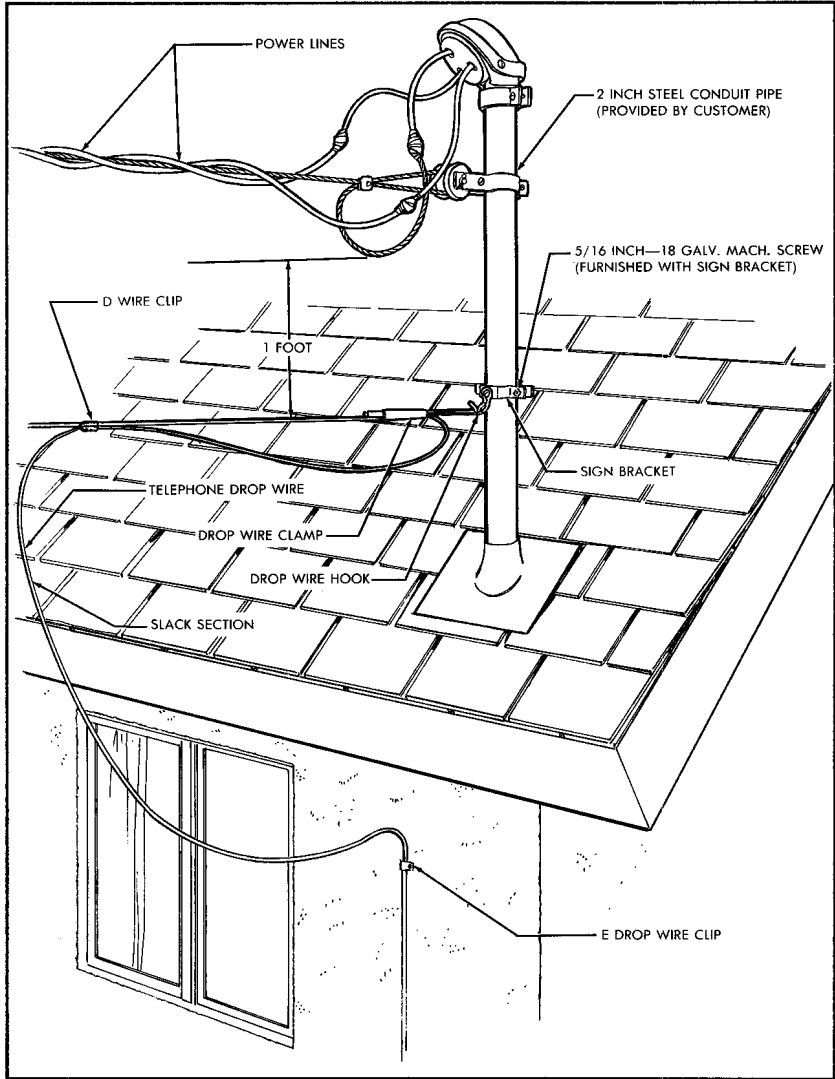

FIGURE 10. Drop Wire Attached To Power Fixture
6.01 Figures 10 through 12 show typical clearance fixtures commonly provided by customers, and the recommended methods of making drop wire attachment. Where other types of fixtures are provided and different methods of making drop wire attachments are required, local instructions should be issued.